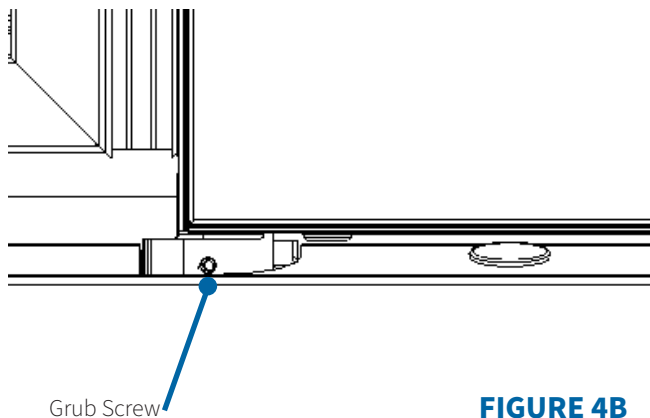

FIGURE 4B
1. Remove grub screw from lower hinge as per Figure 4B. Door will need to be in the closed position to access screw.